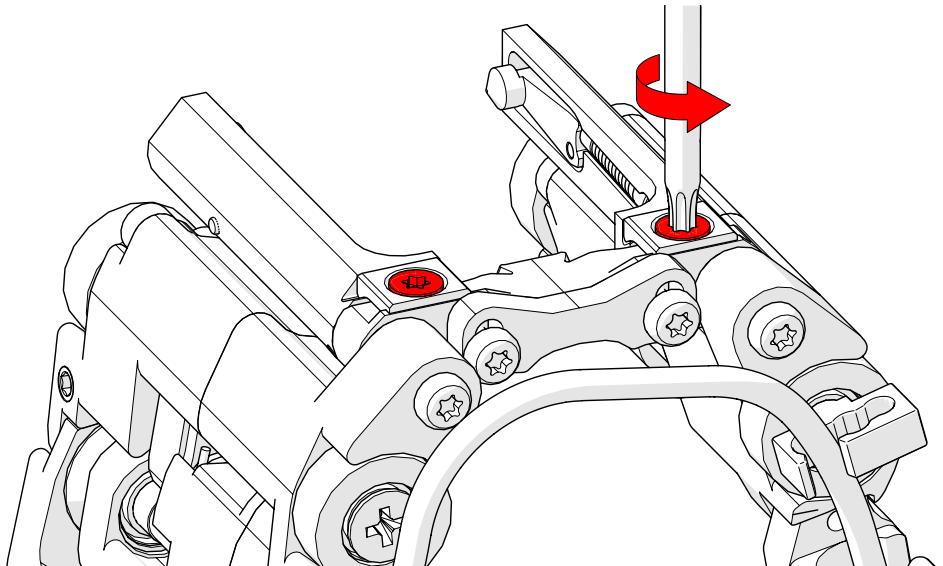

Fig. 53 - Loosen probe holder adjustment screws
4. Loosen the probe holder adjustment screws $1/8^{\text{th}}$ of a turn to relieve clamp pressure (Fig. 53).